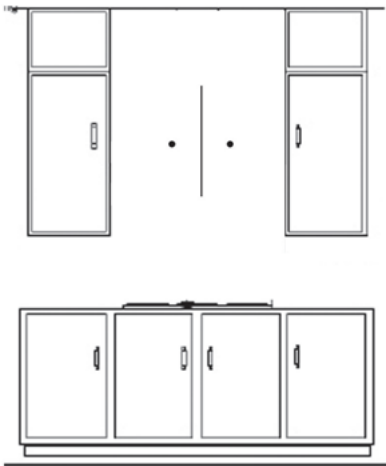

Figure 1
1. Find the center of the wall where you are installing the hood. Make sure there is sufficient bracing, such as wooden beams, to hold the weight of the hood. Mark your center line and measure out from the center to find your two mounting points. Make sure your mounting points are level when you mark them. It is recommended to install the hood directly into wood supports. *Figure 1*
2. Mark the mounting points and install the two mounting screws provided leaving the heads out  $\frac{1}{4}$ " to mount the hood. *Figure 1*